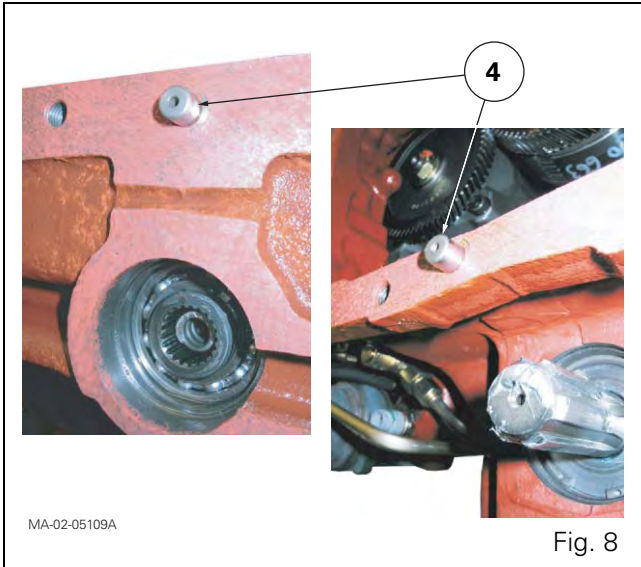

Fig. 8
28. Check the presence of dowels (4) (Fig. 8).